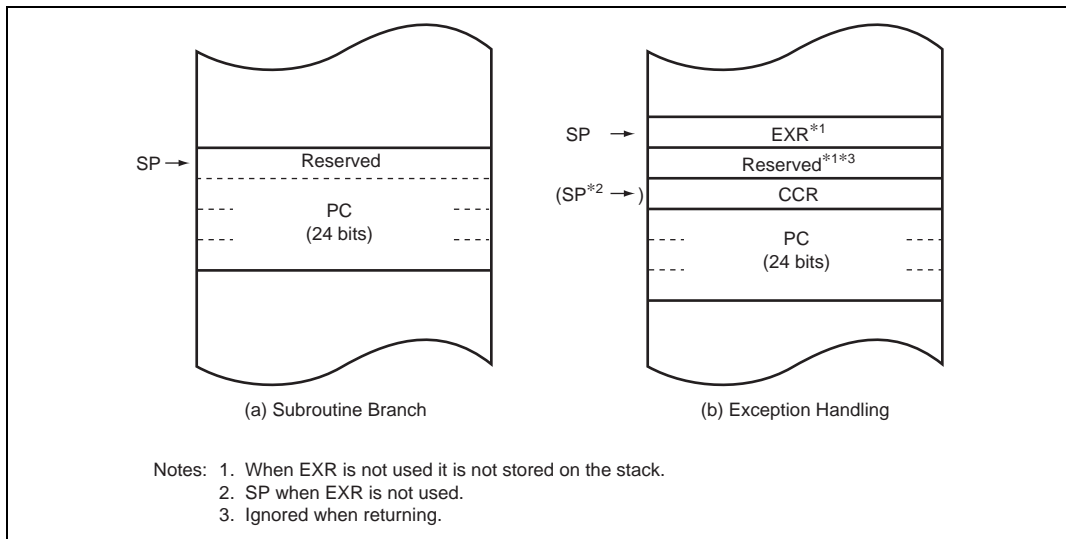

Figure 2.4 Stack Structure in Advanced Mode
In advanced mode, when the program counter (PC) is pushed onto the stack in a subroutine call, and the PC, condition-code register (CCR), and extended control register (EXR) are pushed onto the stack in exception handling, they are stored as shown in figure 2.4. When EXR is invalid, it is not pushed onto the stack. For details, see section 4, Exception Handling.